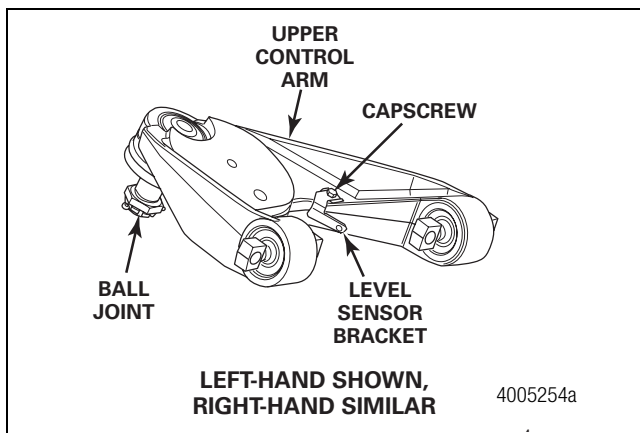
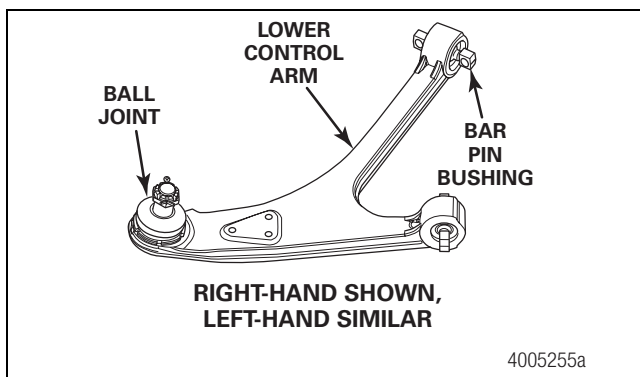

Figure 4.3
Figure 4.4
2. Inspect the four ball joint boots for tears and damage. The boot retaining ring must be in place. Check for grease on the boot. Figure 4.3 and Figure 4.4.
3. Inspect the eight bar pin bushings on the left-hand and right-hand upper and lower control arms for cracks in the rubber, wear and looseness. Replace damaged or worn bushings. Figure 4.3 and Figure 4.4.